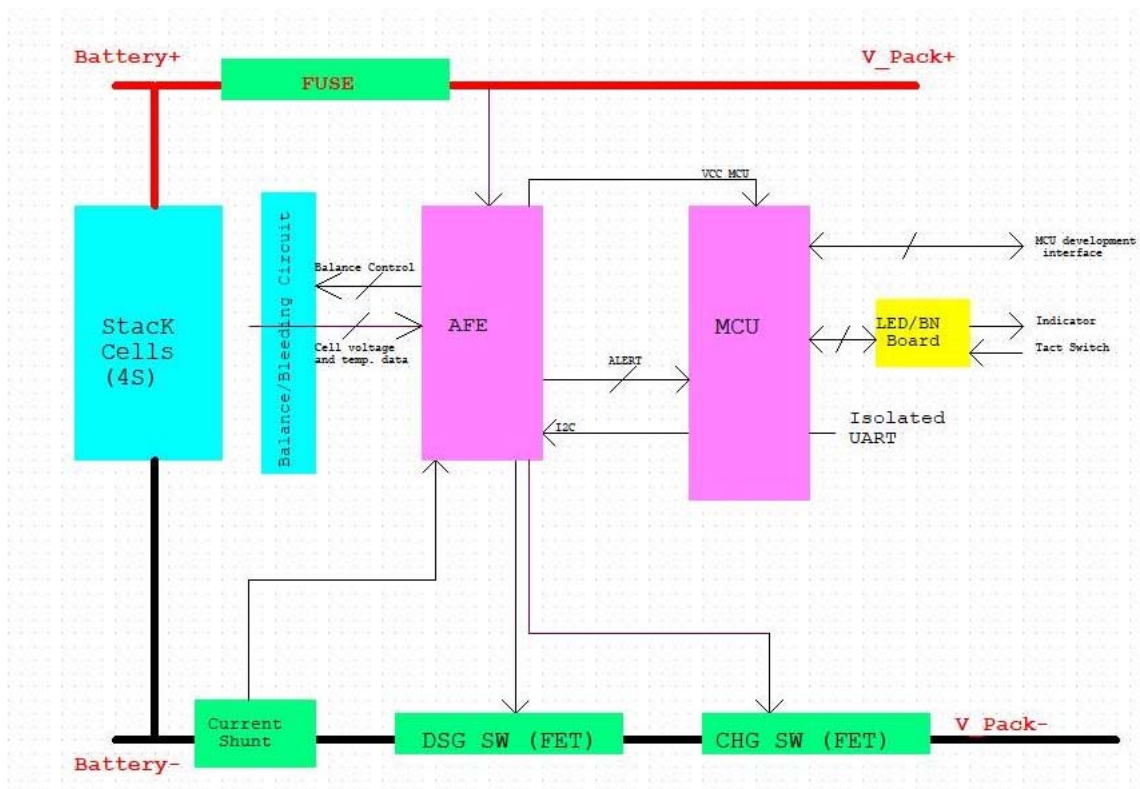

Figure 2 ALE 12V7 Series Battery Block Diagram
- Figure 2 ALE 12V7 Series Battery Block Diagram 9
Each ALE 12V7 Series battery has integrated protection and balancing circuitry (Figure 2) that safeguard the battery from over-voltage, under-voltage, short-circuit and over-temperature conditions. At the core of the ALE 12V7 Series are eight Lithiumwerks ANR26650 cells in a four-series, two-parallel (4S2P) configuration.